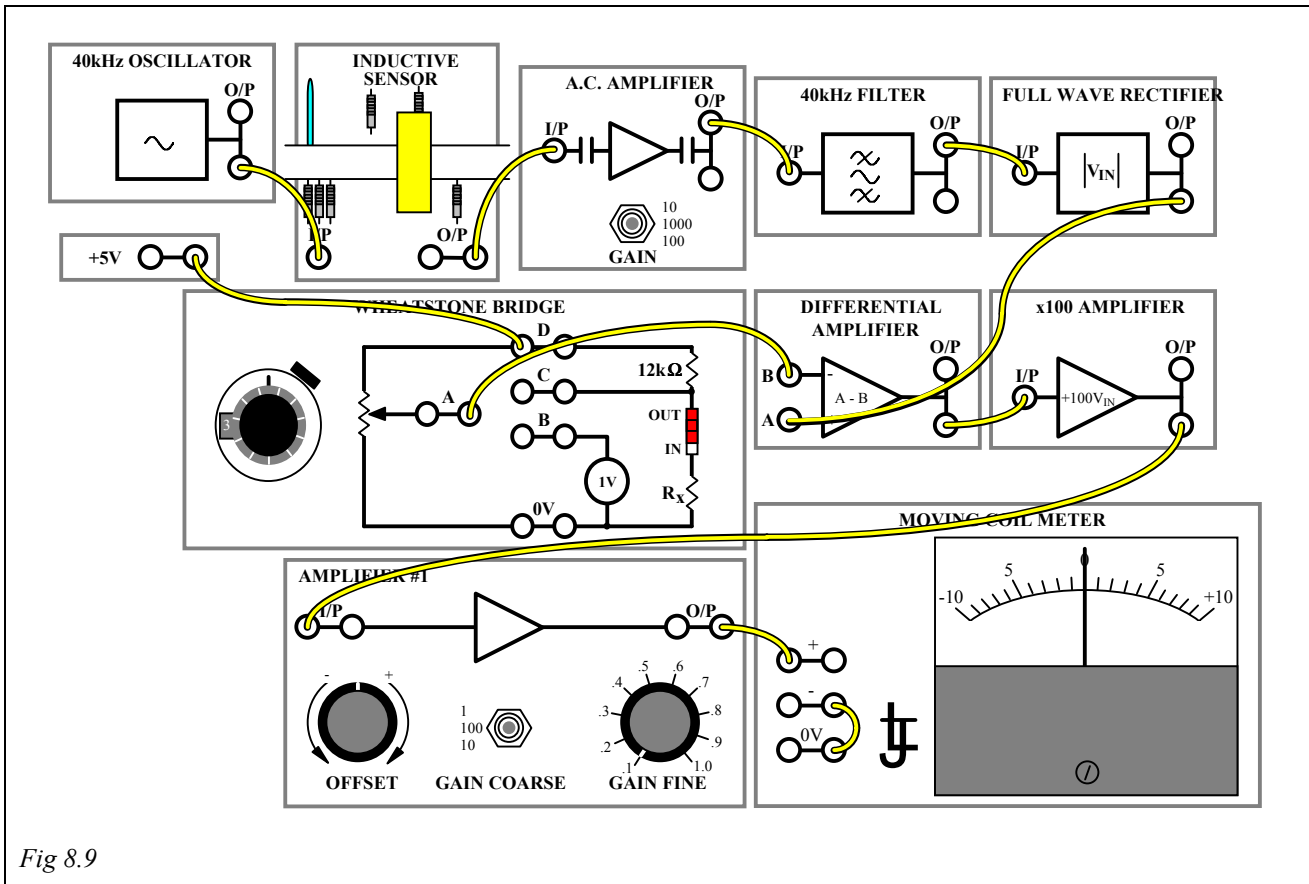

Fig 8.9
- Connect the circuit as shown in Fig 8.9. Set the AC Amplifier gain to 1000 and Amplifier #1 GAIN COARSE to 10 and GAIN FINE to 1.0. Set the drive shaft with the disc slot in the top vertical position.